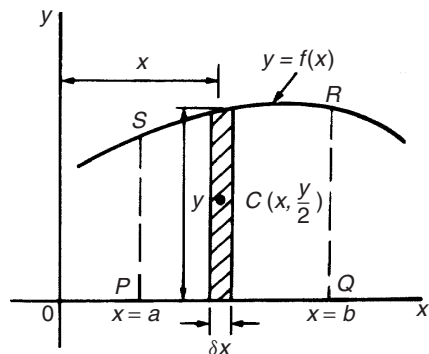

Figure 7.2
- (i) Figure 7.2 shows an area $PQRS$ bounded by the curve $y = f(x)$, the x -axis and ordinates $x = a$ and $x = b$. Let this area be divided into a large number of strips, each of width δx . A typical strip is shown shaded drawn at point (x, y) on $f(x)$. The area of the strip is approximately rectangular and is given by $y\delta x$. The centroid, C , has coordinates $(x, \frac{y}{2})$.